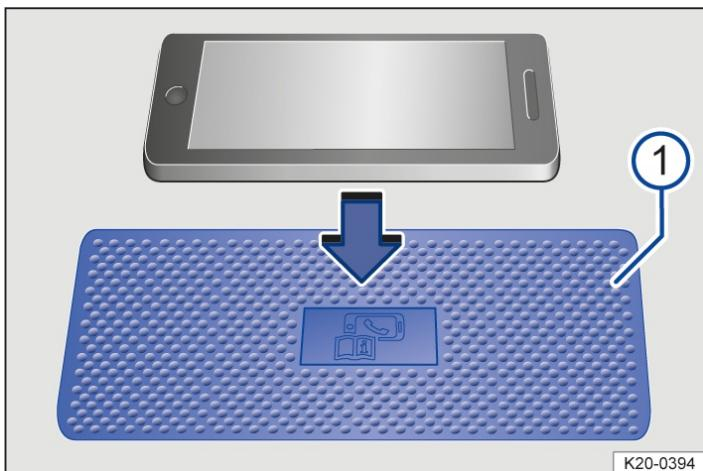

Fig. 1 Illustration: stowage area with mat for wireless charging function. The symbol on the lining mat may look different in some vehicles.
The stowage area with lining mat → *Fig. 1 (1)* for the wireless charging function is located either in the centre console or in a stowage compartment in the area between the front seats depending on the vehicle.
In some vehicles, the lining mat has a telephone symbol that marks the centre position of the wireless charging function → *Fig. 1 (1)*.